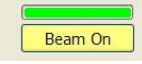

Figure 8
3. Open the chamber door slowly, and locate the sample stage. Sometimes moving stage to 60 mm in both X and Y in Navigation page  > **Stage** > **Coordinates** > **X/Y** will facilitate sample loading/unloading. Attach sample tightly to proper pin stab and fasten pin stab to the stage. Adjust the height of sample to make sure the sample surface is between 4 and Max markers of the gauge (Figure 8).